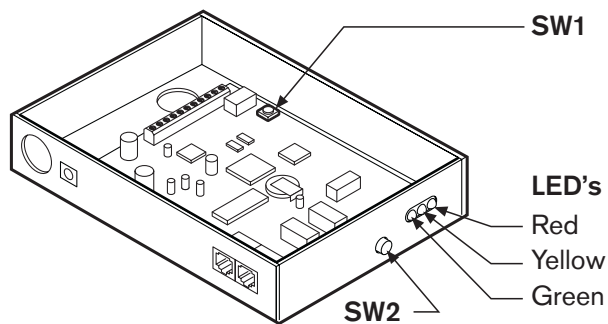

Fig. 34 Gateway Module - switches and LED's
3. Reconnect the power to the gateway. Press and hold **SW1** and **SW2** within **5** seconds of powering up, see Fig. 34.